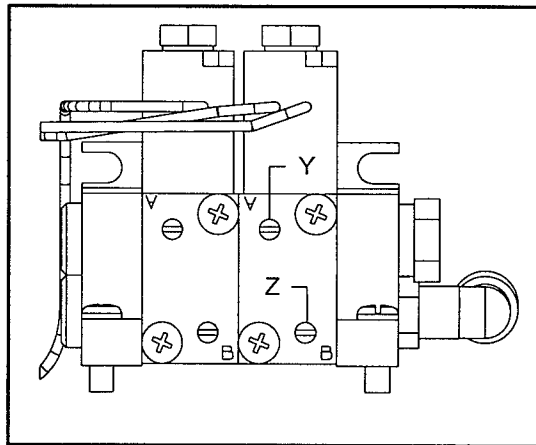

Fig 7
Adjust micro switch (B) so there is 1mm (.040") between (C) and (D).(Fig7)